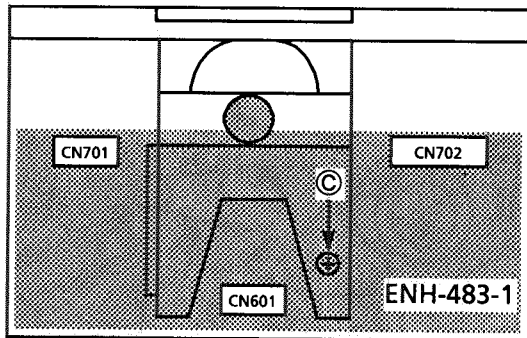

Fig. 3 UP SIDE
Disconnect the CN601. (Fig.3)
2. Disconnect the CN701 and CN702. (Fig.3)